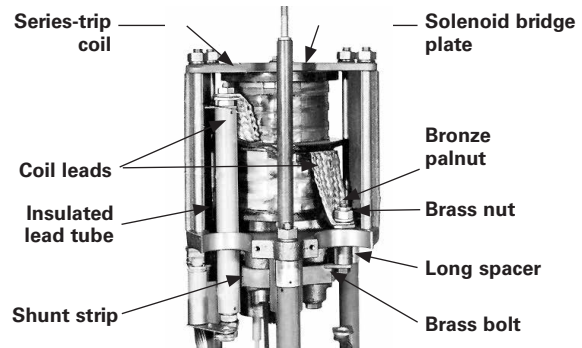
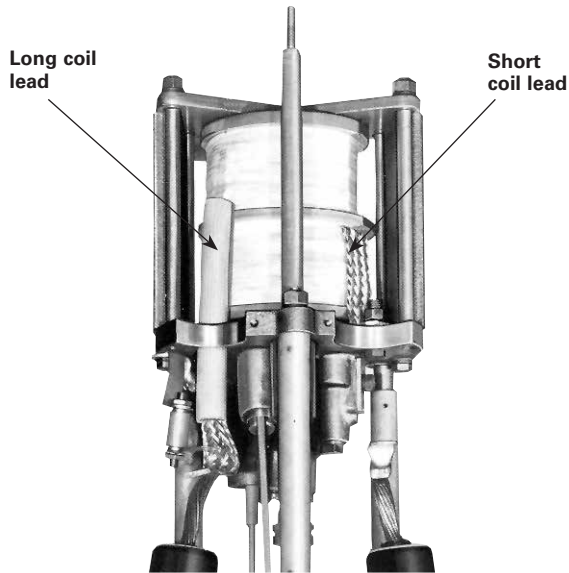

Figure 16. Series-trip on solenoids below serial number L42775
Figure 17. Series-trip coil for units with serial number L42775 and above
One end of the coil is attached directly to the solenoid frame. When a recloser is uprated to 280 amps, a shunt-strip kit must be installed to increase conductivity of the frame (Figure 16). Specify catalog no. KA100L for a kit that includes items 3, 4, 5, 6, 7, 8, 10, and 11 shown in the parts list.
2. Disconnect coil leads. Figure 16 shows connections for coils with one short lead connected to an insulated lead tube. Coils with one long lead are directly connected to the contact tube and do not require this lead tube. See Figure 17 for arrangement of sleeved long lead used in place of insulated lead tube after serial no. L42755.